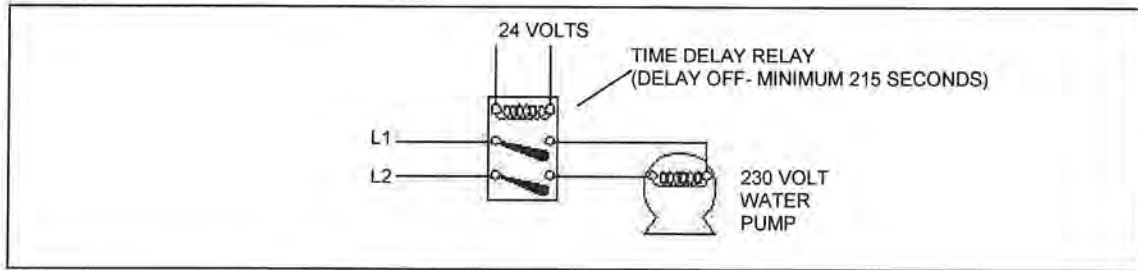

Figure 18 – EXTERIOR CONTROL WIRING FOR A 230 VOLT WATER PUMP
- Wiring a 230 volt water pump with a current requirement less than 4 amperes, see Figure 18.
When the unit does not control the hydronic system's water pump, the installer must ensure that the pump and the unit start at the same time. Also, the pump must continue to run during the unit's cycle down time (215 seconds after the opening of the control switch). See Figure 18.